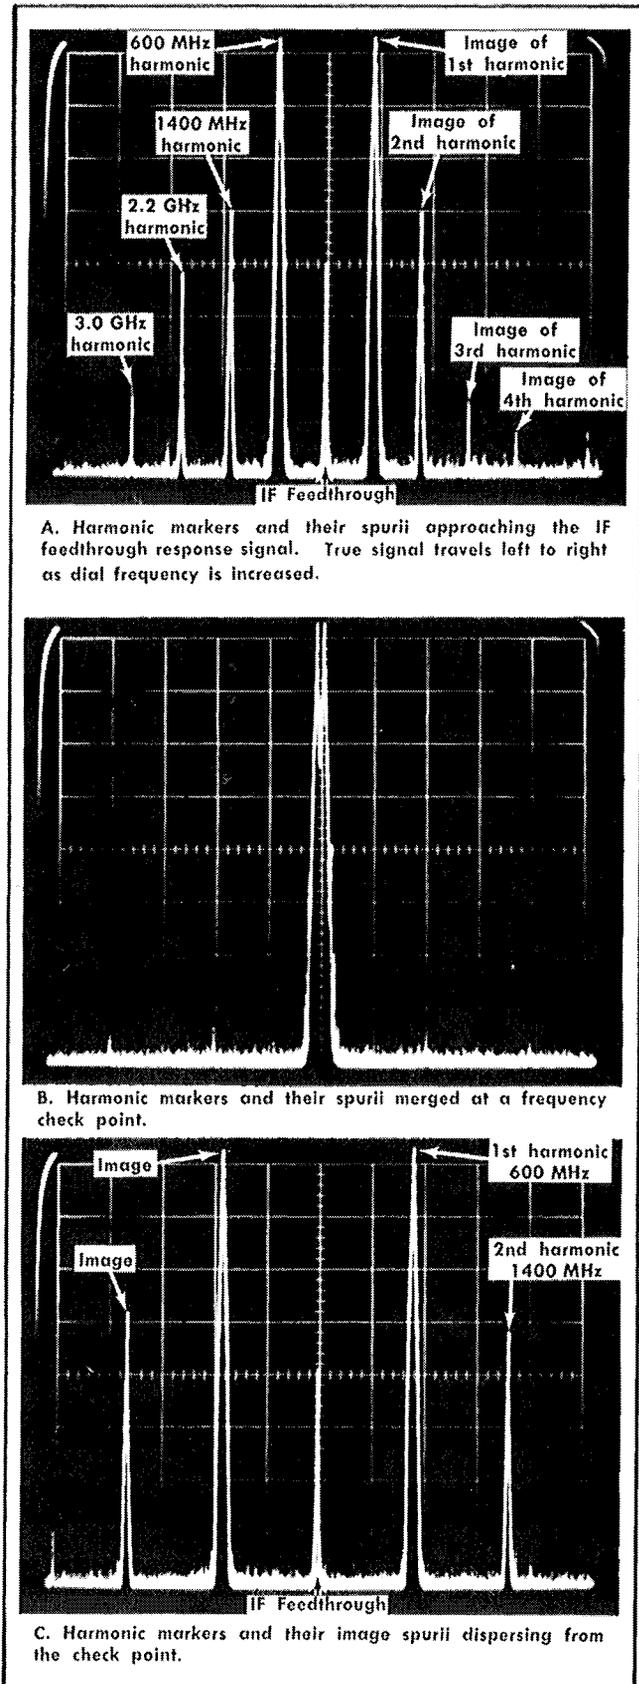

Fig. 6-46. Harmonic frequency markers used to check dial accuracy.
- 1) Tune the RF CENTER FREQUENCY through the band. Observe the 100 MHz harmonics and their image spurs as they travel across the screen towards the center and merge with the IF feedthrough response, as the dial crosses a frequency check point. The harmonics then separate and move off the screen. See Fig. 6-46. Maximum error between the dial readings and frequency check points must not exceed  $\pm (2 \text{ MHz} + 1\% \text{ of the dial reading})$ .